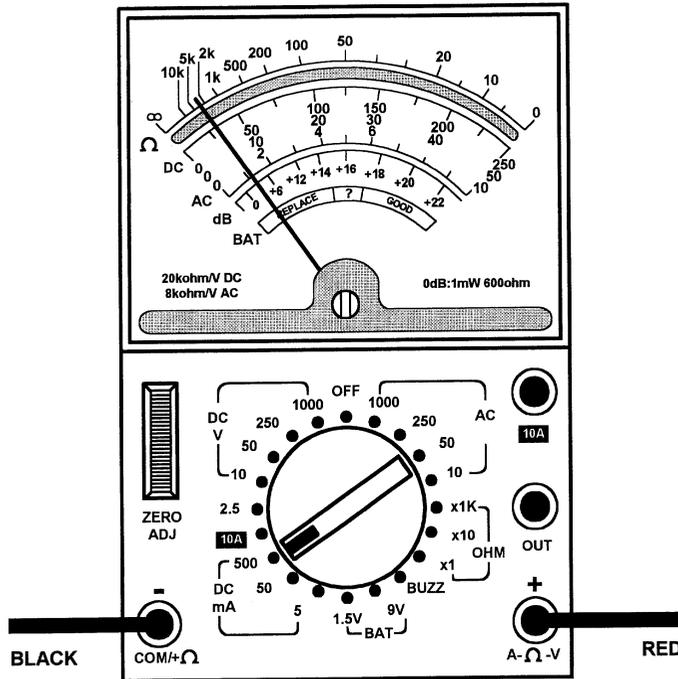

Figure 14.35 See Problem 14.7
- 14.7 Determine the reading on the multi-range meter shown in Fig. 14.35.